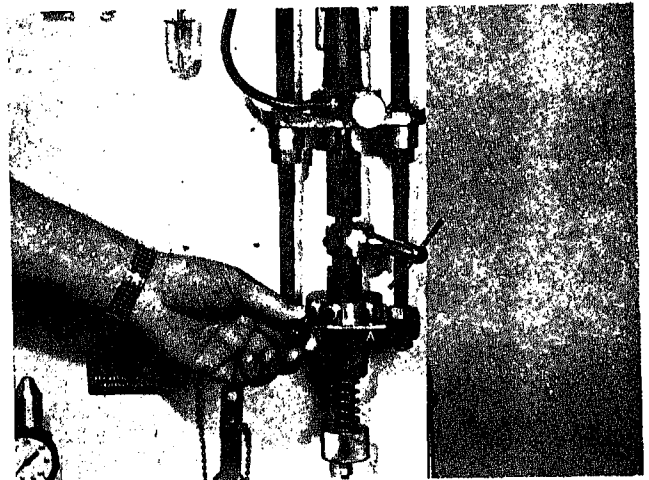

Fig. 6-1-35. Shifting retraction lever
7. Shift retraction lever from "A" to "B" position. See Fig. 6-1-35. This removes load from plunger and allows it to retract from cup seat by approximately .048 inch. Measure plunger retracts. The adherence of mating surfaces between plunger and cup sometimes holds plunger in seat.